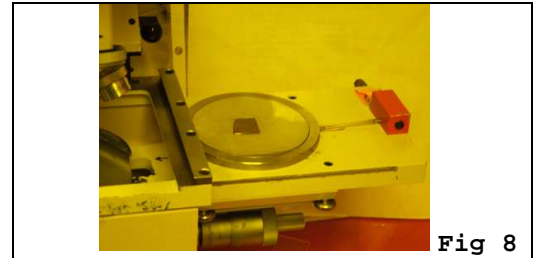
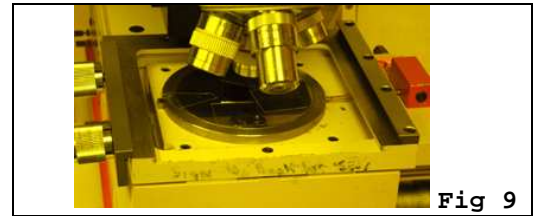

Fig 8
Fig 9
14. Pull sample stage fully out to right. [Fig 8]
17. Slide sample stage fully in to left. [Fig 9]
- Note:** If final alignment of sample and pattern remains unsatisfactory, it is often more efficient to completely rotate sample lever DOWN, [Fig 5] slide sample stage fully out to right, [Fig 8] and ensure sample stage is seated correctly (note small alignment pin beneath horseshoe-shaped sample stage platform [Fig 13]), then slide sample stage fully in to left, [Fig 9] and repeat alignment.
27. Slide sample stage fully out to right. [Fig 8]
29. Slide sample stage fully in to left. [Fig 9]